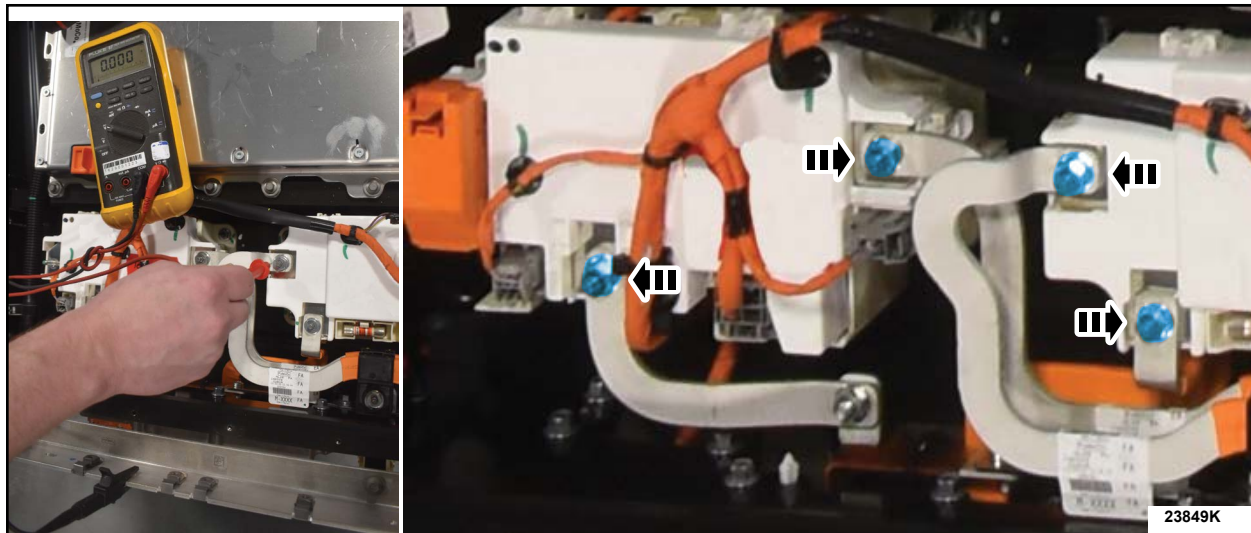

FIGURE 10
24. Using a voltage meter drain both High Voltage Battery Junction Boxes to zero. Place the negative probe on the battery case. Touching the terminals will drain the capacitors. See Figure 10.